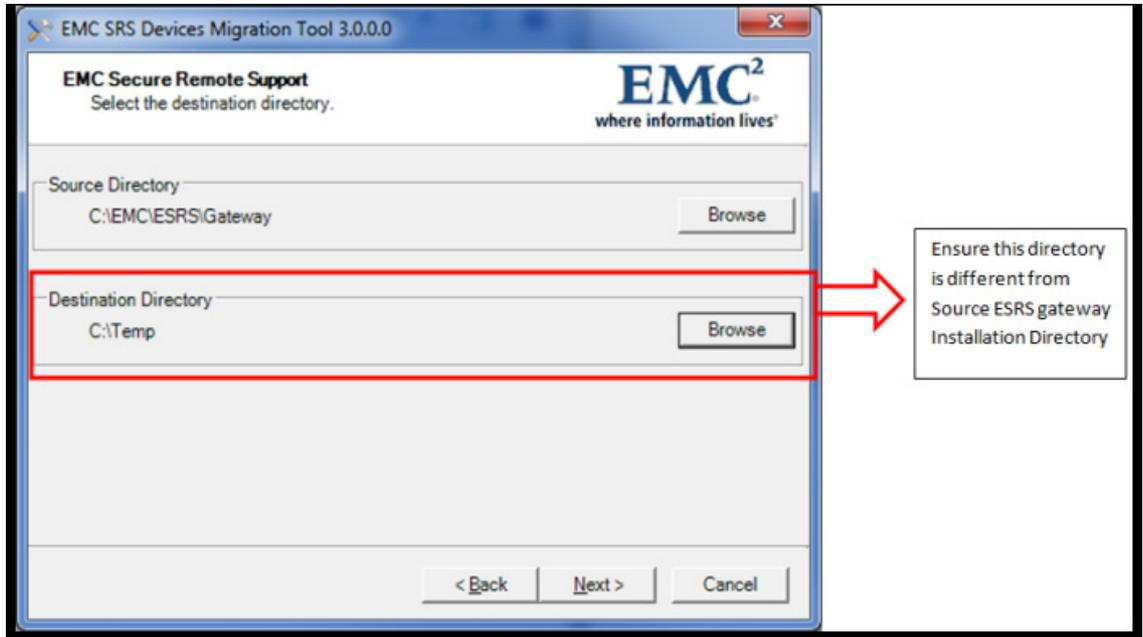

Figure 101 Selecting Destination Directory
3. On the Migration Tool wizard, click **Next**. The Migration Tool wizard displays the Source and Destination Directory information, as shown in Figure 101 on page 92. Note the following: